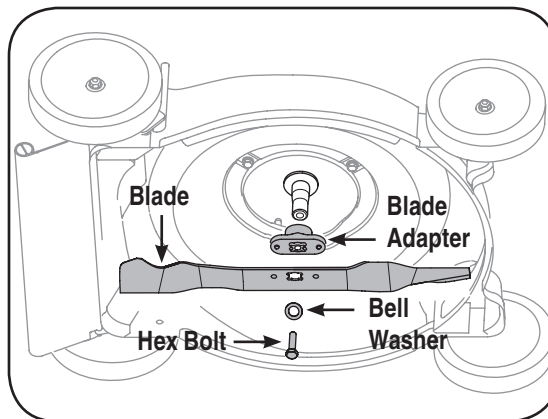

Figure 5-2: Remove blade and hardware.
2. Remove the bolt and the bell washer which hold the blade and the blade adapter to the engine crankshaft. See Figure 5-2.